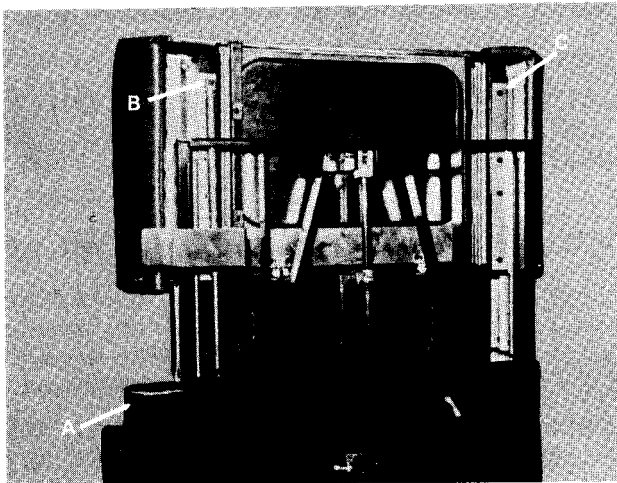

Fig. 6
- 5) On the 114 Only, remove the (4) wood screws located under the front outer edge of the seat section. Item A, Fig. 6.
- 5) On the 114 Only, install (4) wood screws under outer front edge of seat section, Item A, Fig. 6.
- 1) Remove screw Item B, Fig. 6 from lateral locking mechanism to expose (4) mounting screws.
- 2) Remove (4) mounting screws from each side of frame, Item C, Fig. 6.
- 4) Remove (4) 10-24 x 5/8" screws from upholstered foot section.
- 1) Place footrest upholstered section on frame and align holes and install (4) 10-24 x 5/8" screws in footrest upholstered section.
- 2) Install (4) mounting screws on each side of frame, Item C, Fig. 6.
- 3) Install screw, Item B, Fig. 6 in lateral locking mechanism.